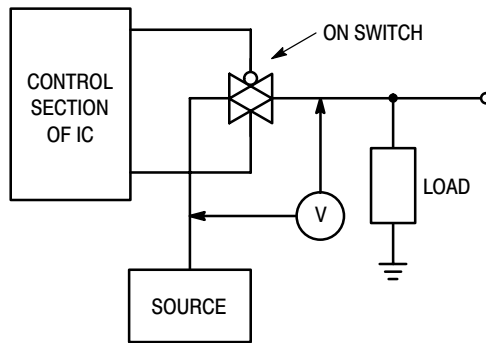

Figure 14.  $\Delta V$  Across Switch
3. For voltage drops across the switch (ΔVswitch) > 600 mV (> 300 mV at high temperature), excessive VDD current may be drawn; i.e., the current out of the switch may contain both VDD and switch input components. The reliability of the device will be unaffected unless the Maximum Ratings are exceeded. (See first page of this data sheet.) Reference Figure 14.